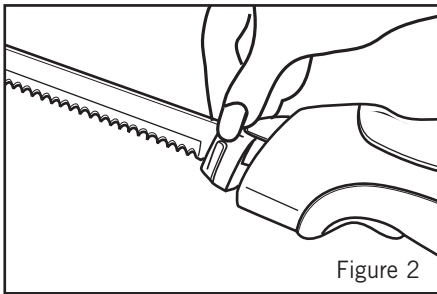

Figure 2
2. Hold assembled blades by the safety guards and slide shafts gently into the blade slot until clipped into position. See Figure 2.